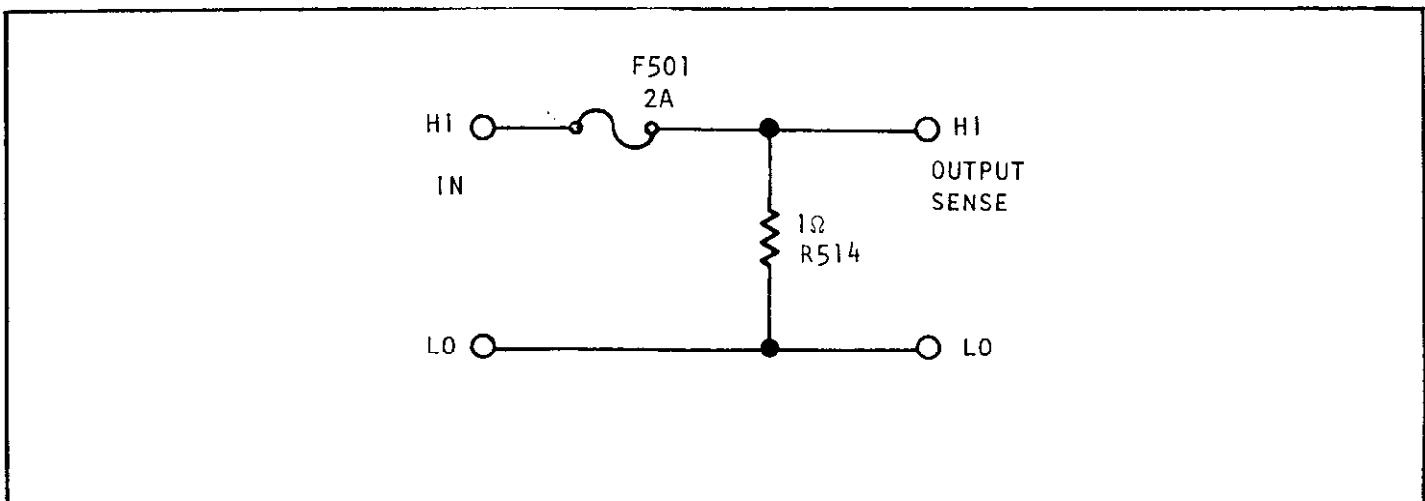

FIGURE 5-6. Simplified Schematic of Model 172A I/V Converter.
2) Model 172A I/V Converter. This current converter (shown in Figure 5-6) consists of a 1 ohm resistor (R154) and a 2A protection fuse (F501). The input current passes through the resistor developing an output voltage from 0 to 2 volts. For example: a 475mA input will produce an output voltage of 475mV. Since an ac current input will produce an ac voltage and a dc input will produce a dc voltage, the output of the I/V converter is routed through either the DC attenuator or the AC/DC converter before being applied to the A/D converter. Routing is controlled by the position of the DC/AC pushbutton, and the gains used are the same as those given in Table 5-2 for the 300mV (300 $\mu$ A)